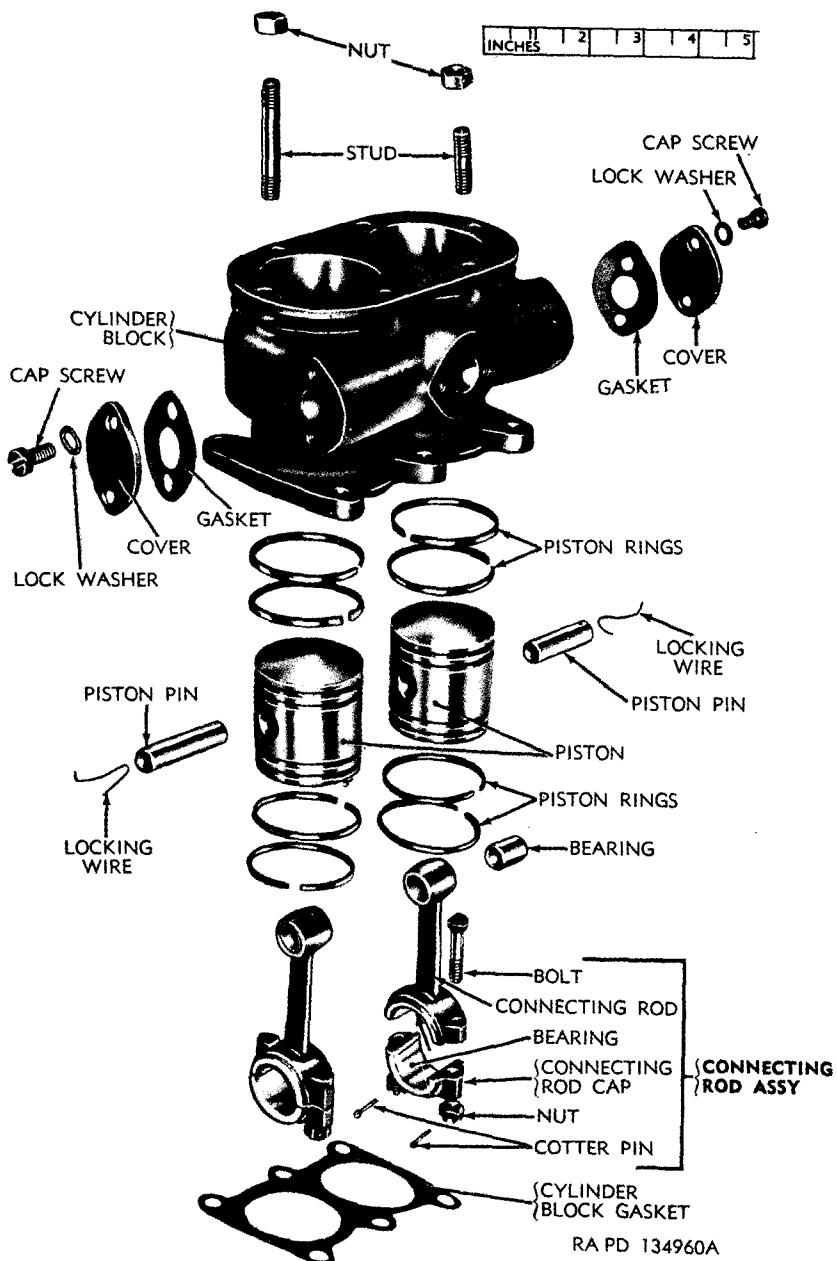

Figure 39. Cylinder block, pistons, and connecting rods—exploded view.
(fig. 39)
- (1) Remove any raised metal adjacent to dents or scratches with a fine mill file.
- (2) If regrinding or honing is necessary, cylinder blocks should be bolted to crankcase during operation. Bores should be finished with a 320 grit hone. Pistons of 0.010 inch, 0.020 inch, and 0.030 inch oversize are available. See serviceability standards (par. 46) for grinding limits. U-12 blocks are fitted with cylinder sleeves which are replaced, if regrinding will result in more than 0.030 inch oversize.
a. *Disassembly* (fig. 39).
- (1) Remove cotter pins from castellated nuts on bolts attaching connecting rod caps. Lift out of the connecting rod caps. Then push pistons, with connecting rods attached, out the top of the cylinder block. Replace connecting rod cap on each connect-
a. *Installing Cylinder Block.* Place new cylinder block gasket (fig. 39) in position over crankcase studs. Position cylinder block on crankcase in accordance with markings made before disassembly. Install lock washers and nuts, and secure cylinder block to crankcase.